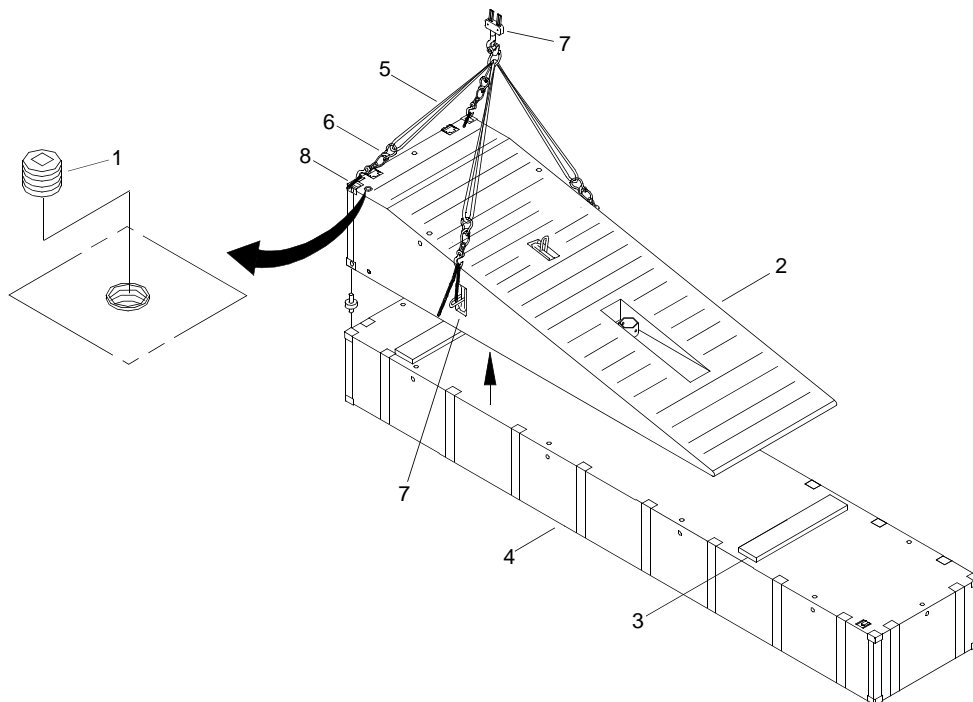

Figure 5. Placing the CBSE Module
7. Verify drain plug (figure 5, item 1) on CBSE module (figure 5, item 2) is installed and tight.
8. Place wood planks (figure 5, item 3) from top of center module (figure 5, item 4).
9. Attach four 8,400 lb slings (figure 5, item 5) and 36,000 lb adjustable chain slings (figure 5, item 6) from crane (figure 5, item 7) to two corners (figure 5, item 8) and two side padeyes (figure 5, item 7) on CBSE module (figure 5, item 2).
10. Using slings (figure 5, items 5 and 6) and crane (figure 5, item 7), lift CBSE module (figure 5, item 2) from top of center module (figure 5, item 4).
11. Remove 36,000 lb adjustable chain slings (figure 5, item 6) from two corners (figure 5, item 8) and two side padeyes (figure 5, item 7) on CBSE module (figure 5, item 2).
12. Remove 8,400 lb slings (figure 5, item 5) from crane (figure 5, item 7).